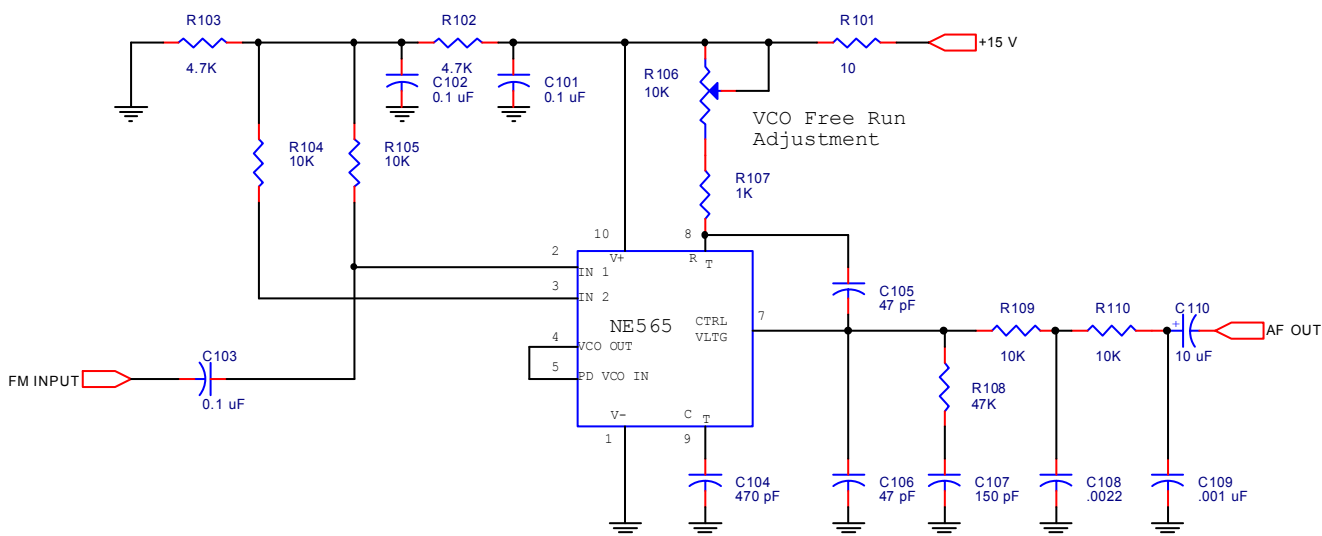

Figure 9-10: A PLL FM Detector Utilizing the LM/NE565
Figure 9-10 shows a PLL FM detector using the LM/NE565 PLL IC. This circuit is designed to operate on a carrier of 100 kHz, with nominal deviation of +/- 10 kHz. Variable resistor R₁₀₆ sets the free-running frequency of the loop, which should be adjusted to 100 kHz (at pin 4 of the IC, the VCO output) with no signal applied to the *FM INPUT*. The LM565 IC contains the phase detector, VCO, and filter resistor. C₁₀₅ and C₁₀₆ are part of the loop RC filter circuit; R₁₀₈ and C₁₀₇ also act as part of the loop filter. R₁₀₉, R₁₁₀, C₁₀₈, and C₁₀₉ filter any 100 kHz RF signal from the detected FM output. C₁₁₀ is a DC block, which leaves only the information signal at the *AF OUT* terminal.
- 9-17 How should R_{106} be adjusted in Figure 9-10? What does it set?